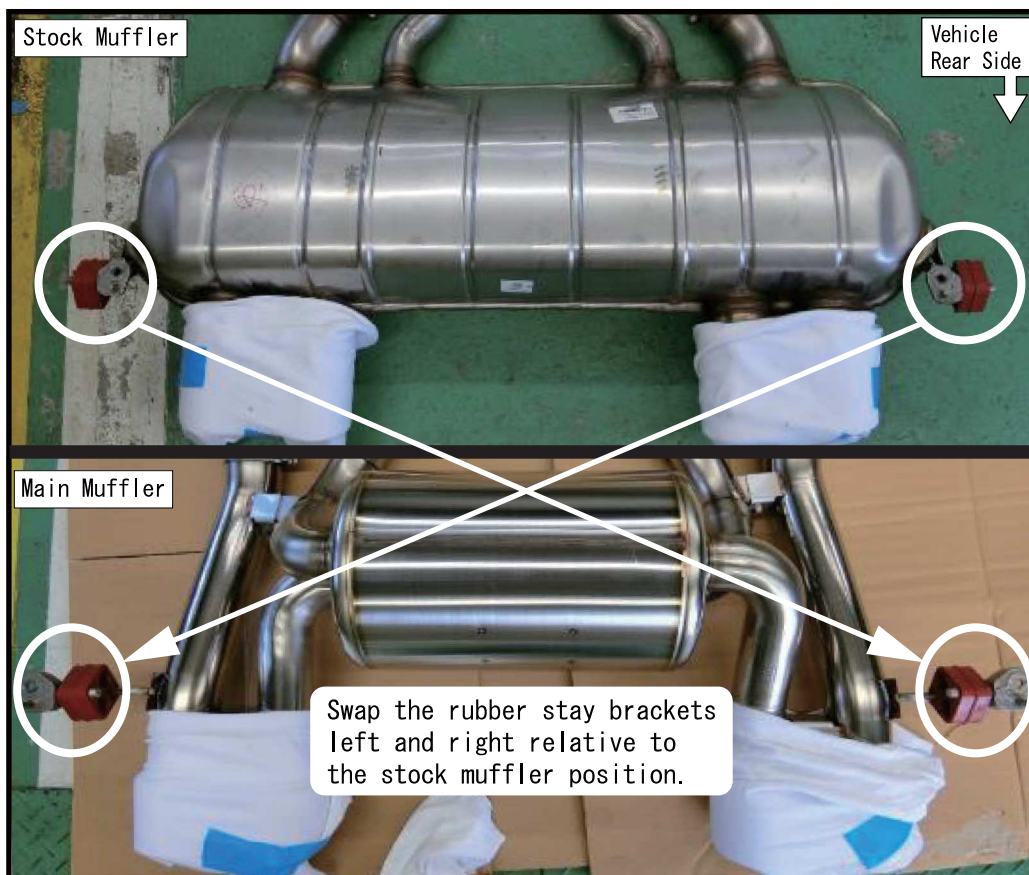
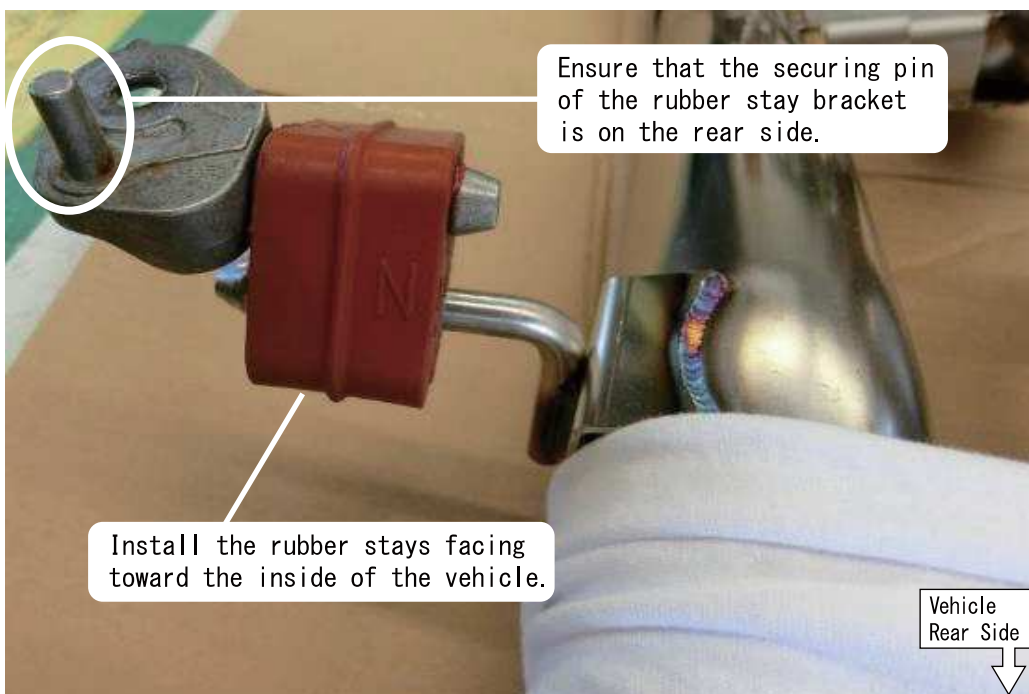

Fig. 7 Installation of rear side stock rubber stay brackets
Fig. 8 Installation details of rear side stock rubber stay brackets (photo shows braket on left side of vehicle)
(2) Swap the two factory rubber stay brackets on the rear side to the original position of the stock muffler, and place them on the two hooks for hanging the main muffler. (Refet to Fig. 7 and Fig. 8)